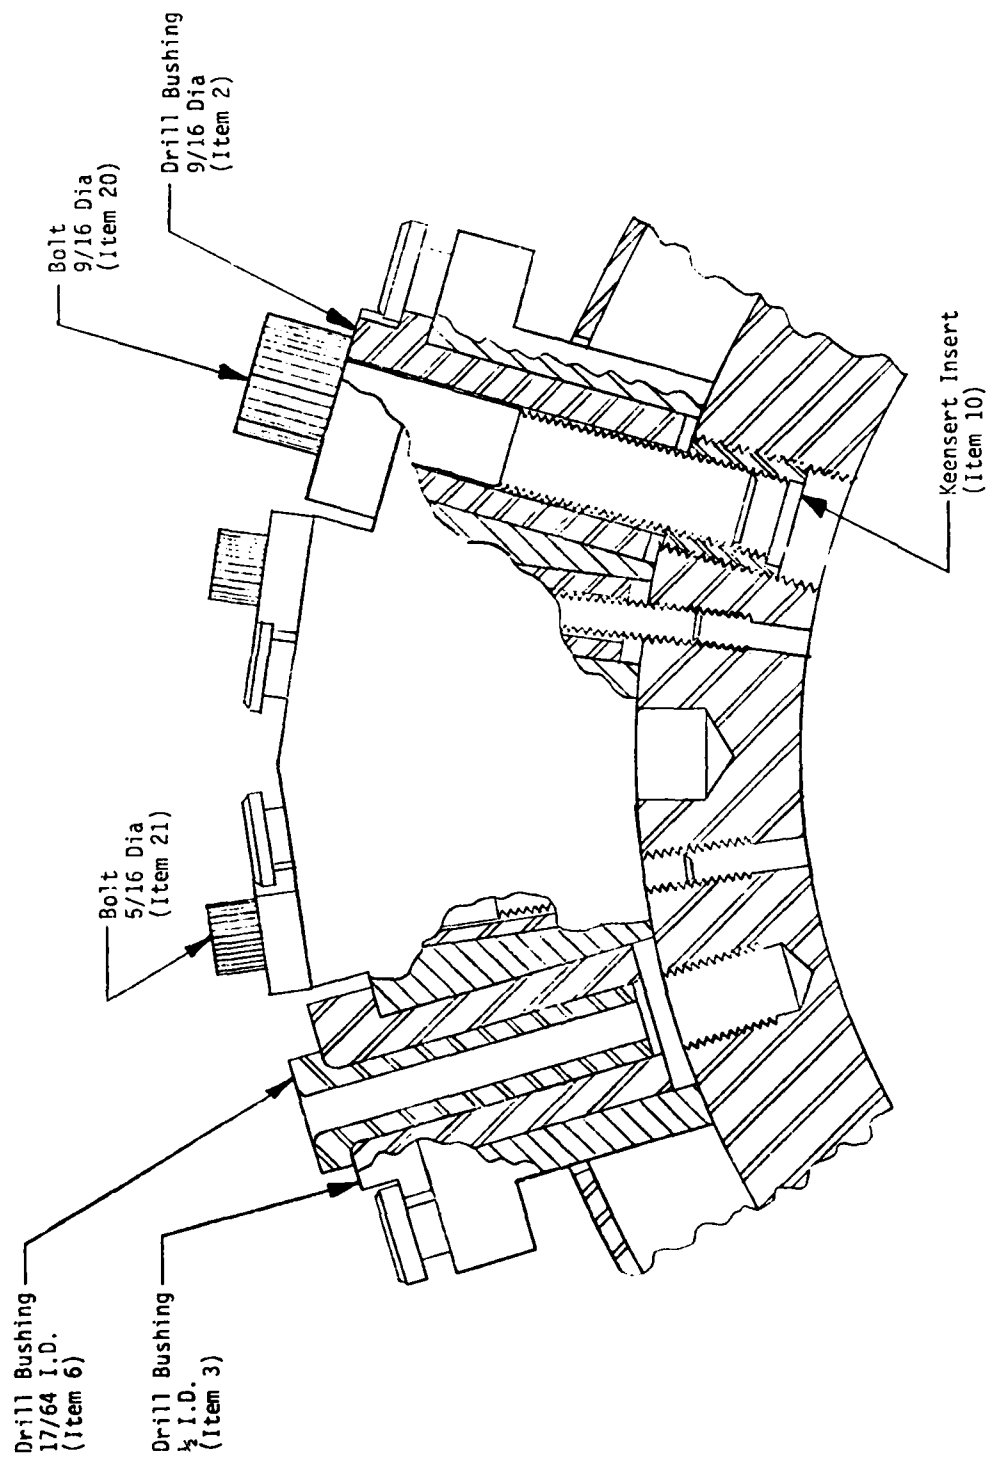

Figure 7. Keensert installation: First Keensert installed; ready to drill pilot hole for second Keensert.
37. Reinstall the drill fixture on the missile, as shown in Figure 7, using two 5/16-inch bolts and one 9/16-inch bolt threaded into the Keensert. Use enough torque on the bolts to clamp the fixture securely in place.